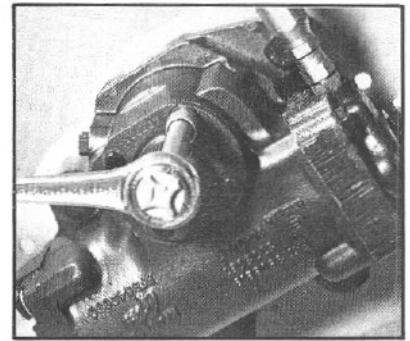
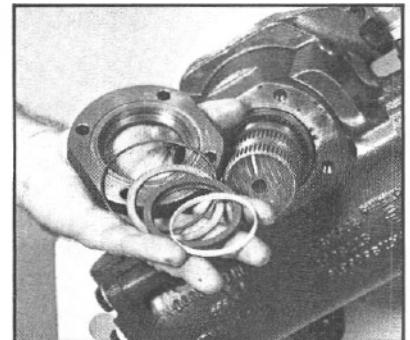

Figure 8
Figure 9
- 1.4 Next, remove the four trunnion cover bolts (28) and then the trunnion cover (26) (FIG. 8). Then, remove and discard the sector shaft seal package, consisting of the Teflon* backup washer (24), the two-piece sector shaft seal (23), and the trunnion cover O-ring (25) (FIG. 9).